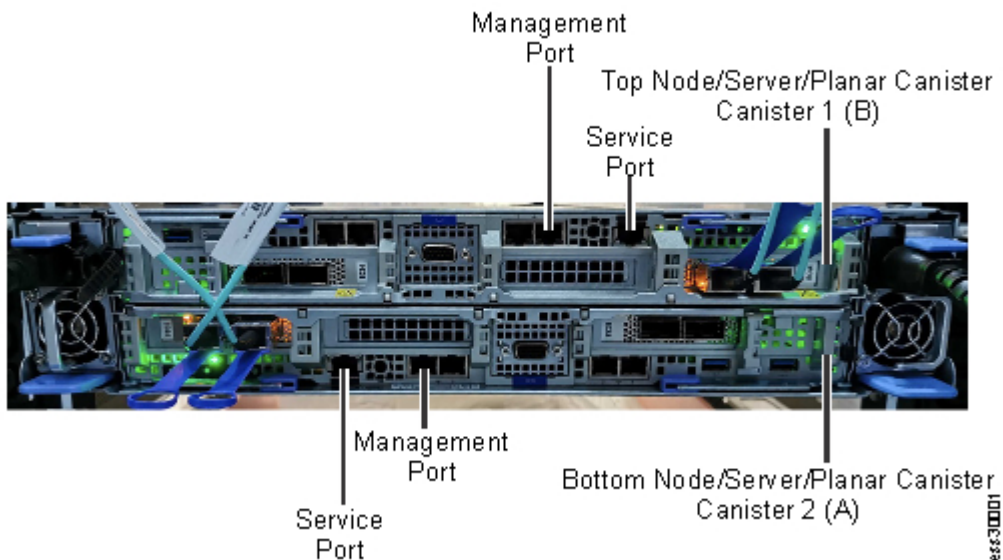

Figure 34. Rear view of ESS 3000
- For each ESS 3000 canister in the flow (see Chapter 4, “Installing,” on page 39), connect your laptop point-to-point to the Service Port as shown in the Figure 34 on page 64. You need to use this port to access each canister, perform hardware checks, and set the management IP address.
- Default physical ESS 3000 ports (per canister) (see Figure 34 on page 64)
- Port with a gear symbol (see Figure 34 on page 64) – Service/Technician port. The SSR will connect a laptop to this port when performing the ESS 3000 tasks. You need to move the cable when working on a different canister (two per ESS 3000 unit)